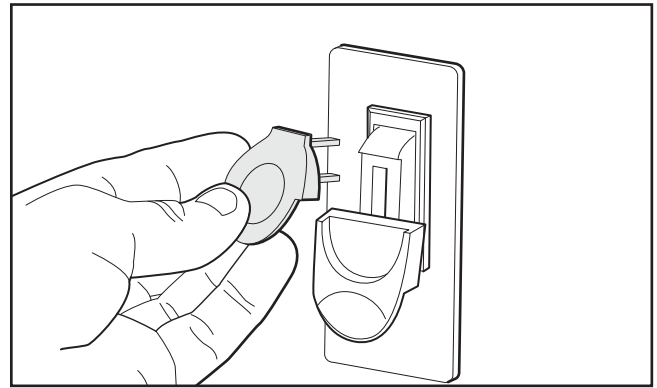

Figure 39. Removing switch key from paddle switch.
6. Remove the switch disabling key, as shown in **Figure 39**.